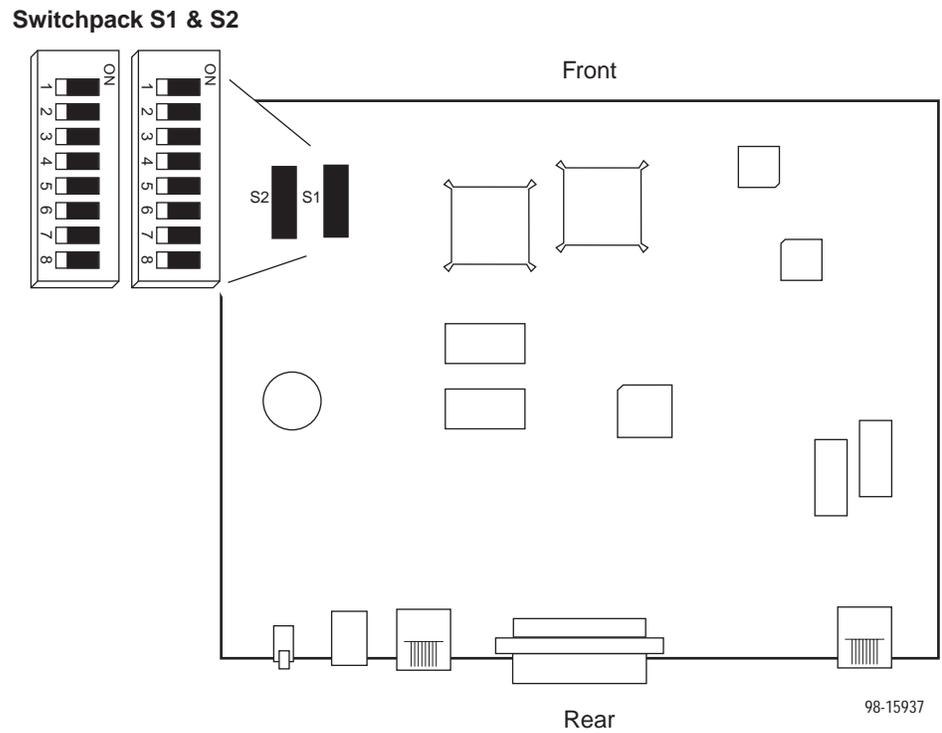

Figure 3-1. Hotwire 7975 Standalone Termination Unit Switchpack Locations
Use internal Switchpacks S1 and S2 to manually configure the unit. Use Figure 3-1 to locate Switchpacks S1 and S2.
2. Locate Switchpack S1 using Figure 3-1.
4. After you enable the switchpacks, you must set the switches to your desired configuration. Refer to Figure 3-1 and Table 3-1.
Use Figure 3-1 to locate Switchpacks S1 and S2.